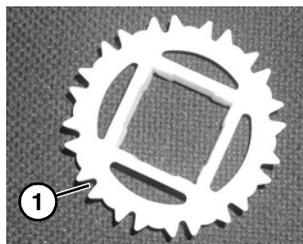

Figure 11
**NOTE:** The cogged drive teeth on the belt (Figure 10, item 2) should engage the deep grooves of the sprocket (Figure 11, item 1).